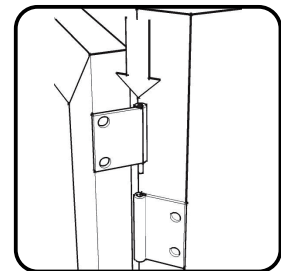

Figure 9
Attach Door (S) to unit by sliding the door lift hinges into the side panel lift hinges. (See Figure 9)